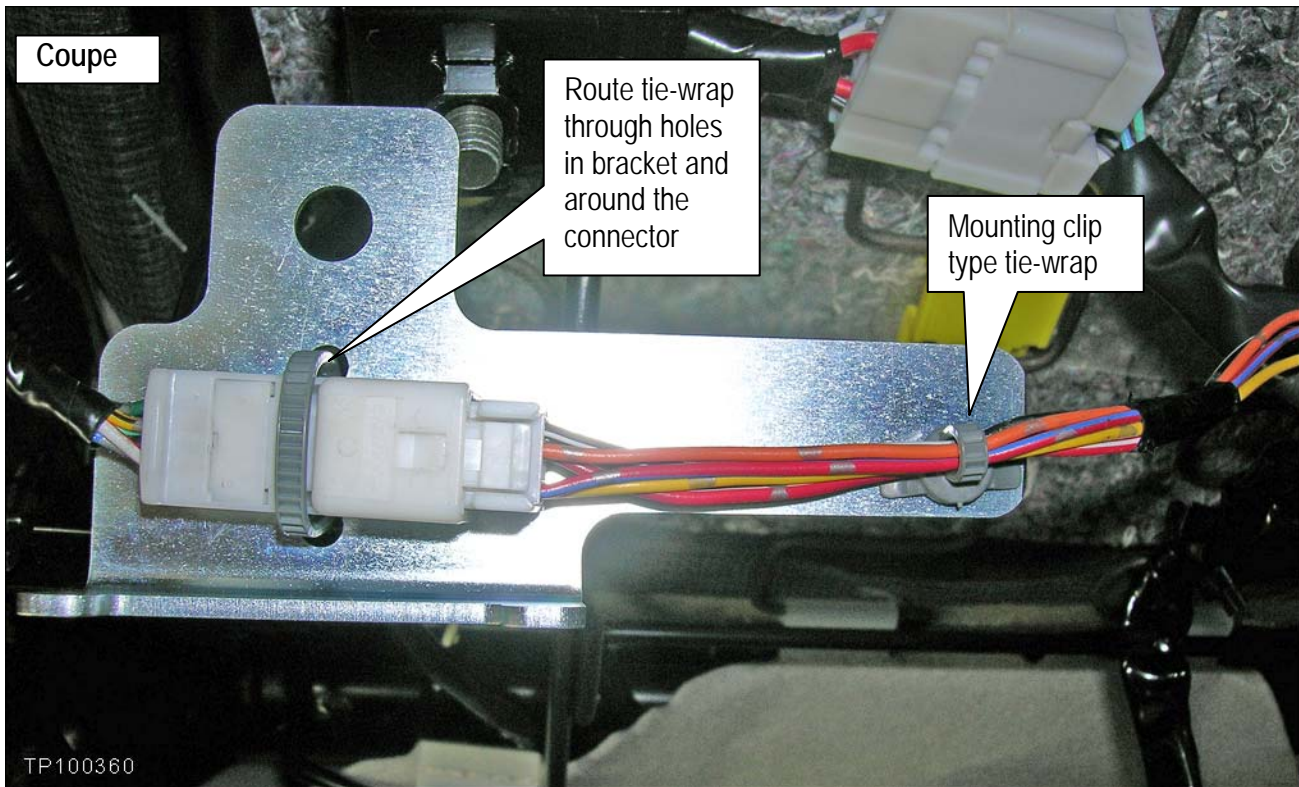

Figure 9A
- Coupe shown in Figure 9A on the next page.